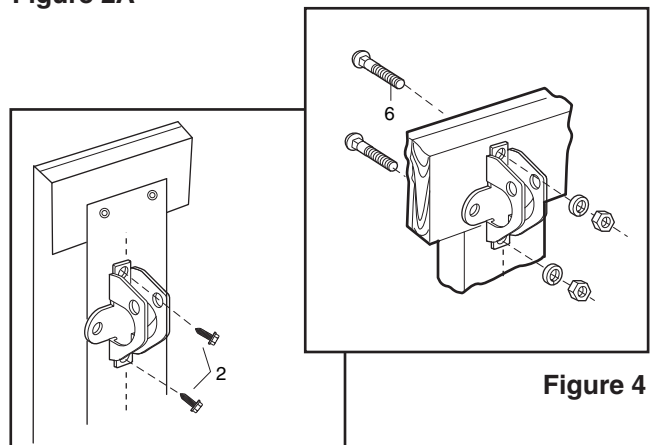

Figure 3
- Drill 4.5mm (3/16") fastening holes. Secure the door bracket (1) using the self-threading screws 8mm x 13mm (2). (Figure 3)